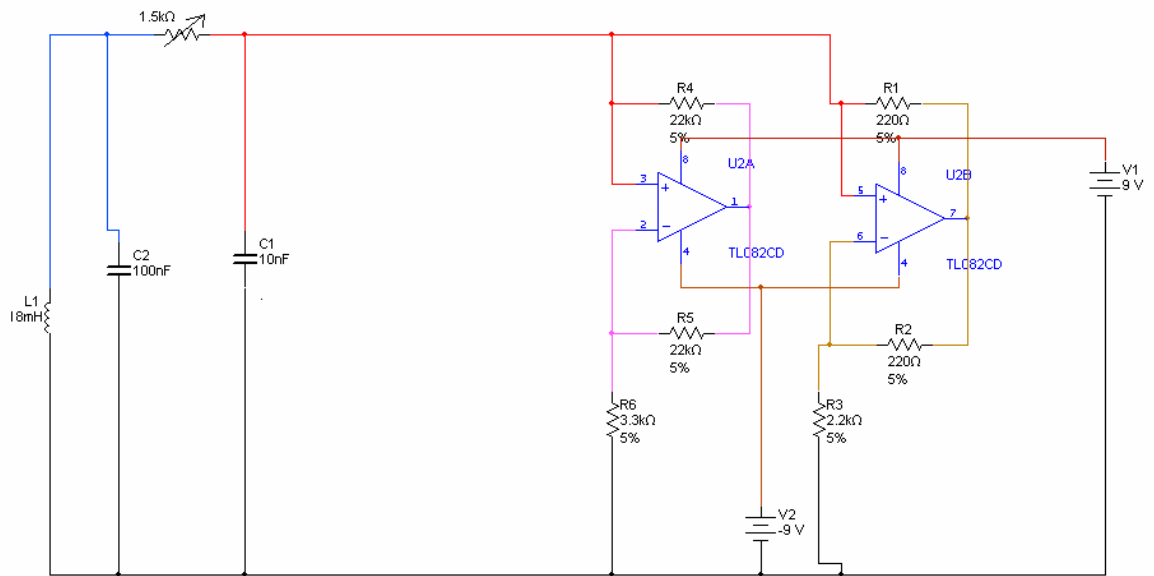

Figure 12. The version of Chua's circuit that we are building
8. Figure 12 shows Chua's circuit, with the Chua diode shown explicitly. We will now put in the capacitors, potentiometer and inductor. Next we will finish the wiring and connect the batteries.